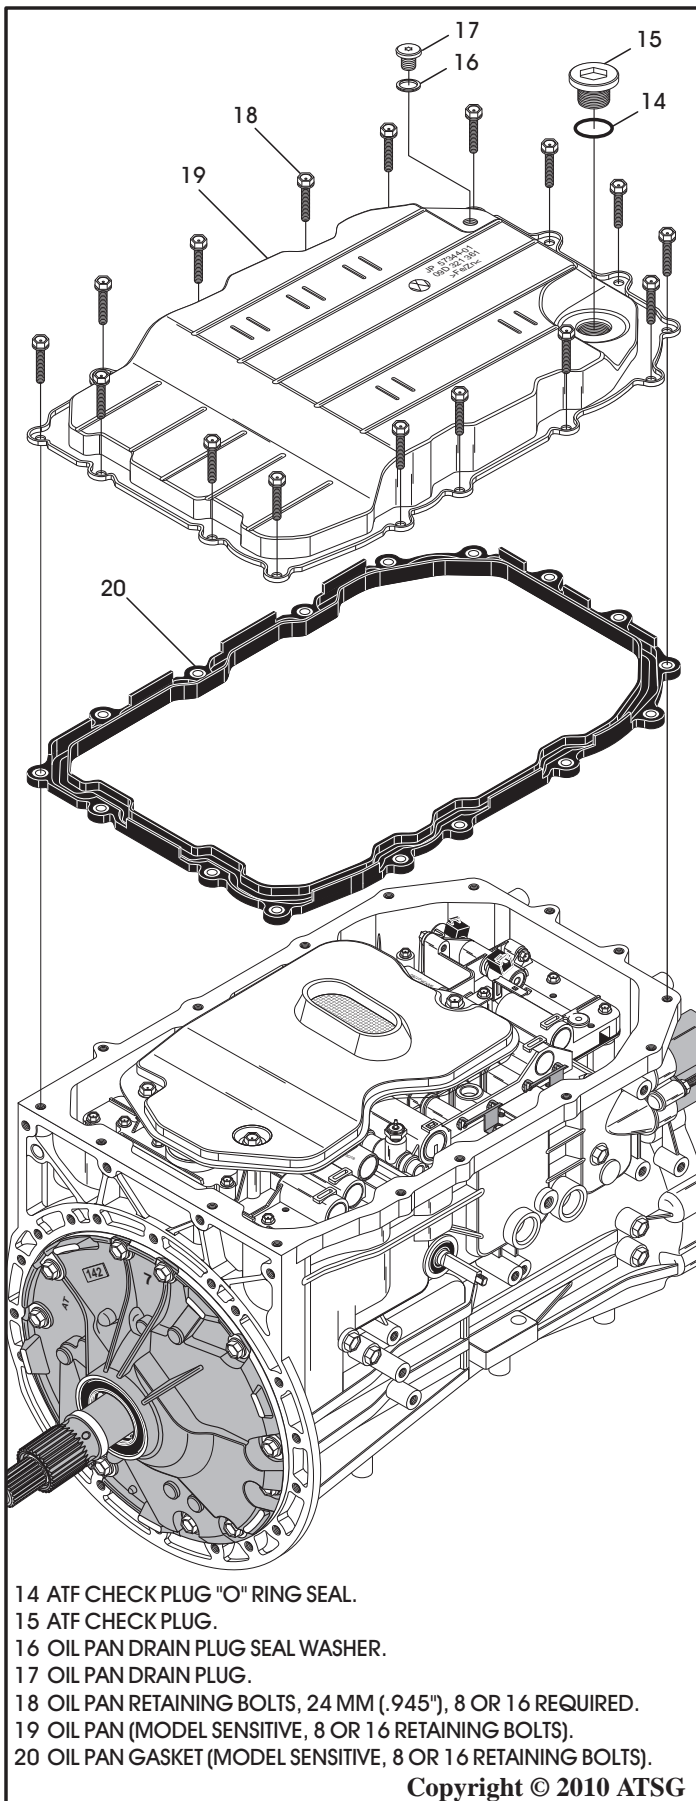

Figure 45
15. Remove the oil pan and oil pan gasket, as shown in Figure 45.